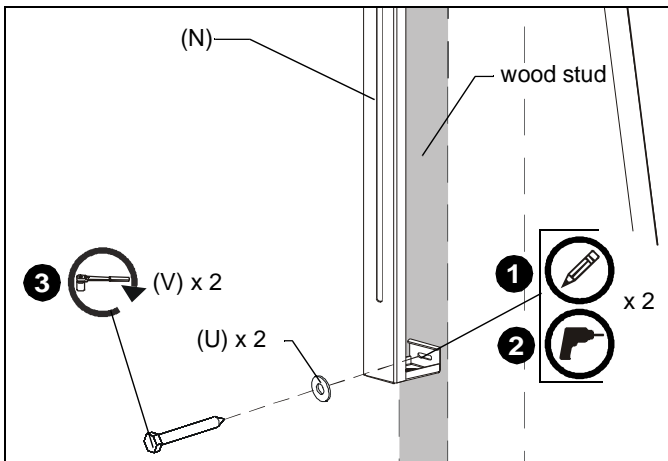

Figure 12
1. Mark the wall over wood stud through the adjustable leg (N) on each upright assembly. (See Figure 12)
2. Drill one 1/8" pilot hole in wood stud. (See Figure 12)
3. Use one 1/4-20 x 2-1/2" lag bolt (V) and one 1/4" flat washer (U) to attach adjustable leg (N) to wall. (See Figure 12)
4. Repeat Steps 2 and 3 for other adjustable leg (N).